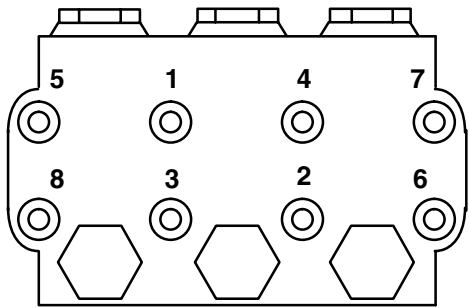

Fig. 4
8. Install the capscrews and washers finger tight. Torque the screws to 22 ft-lb (30 N•m) following the tightening pattern (Fig. 4). Uneven tightening could cause the manifold to bind or jam.